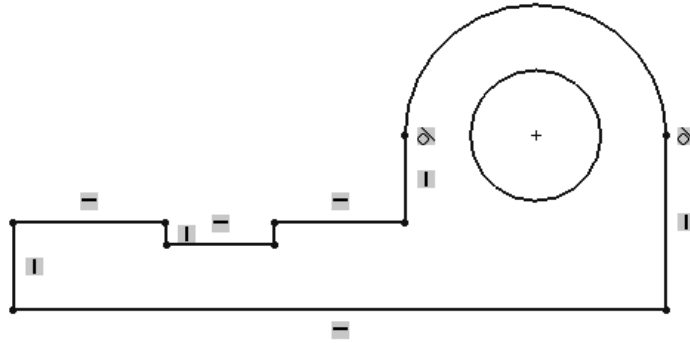

Figure 2-63 Final sketch for Tutorial 3
- Draw the inner circle using the **Circle** tool, refer to Figure 2-63.
The final sketch for Tutorial 3 is shown in Figure 2-63.